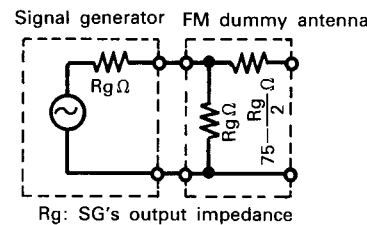

Fig. 15
6. FM dummy antenna shows Fig. 15.